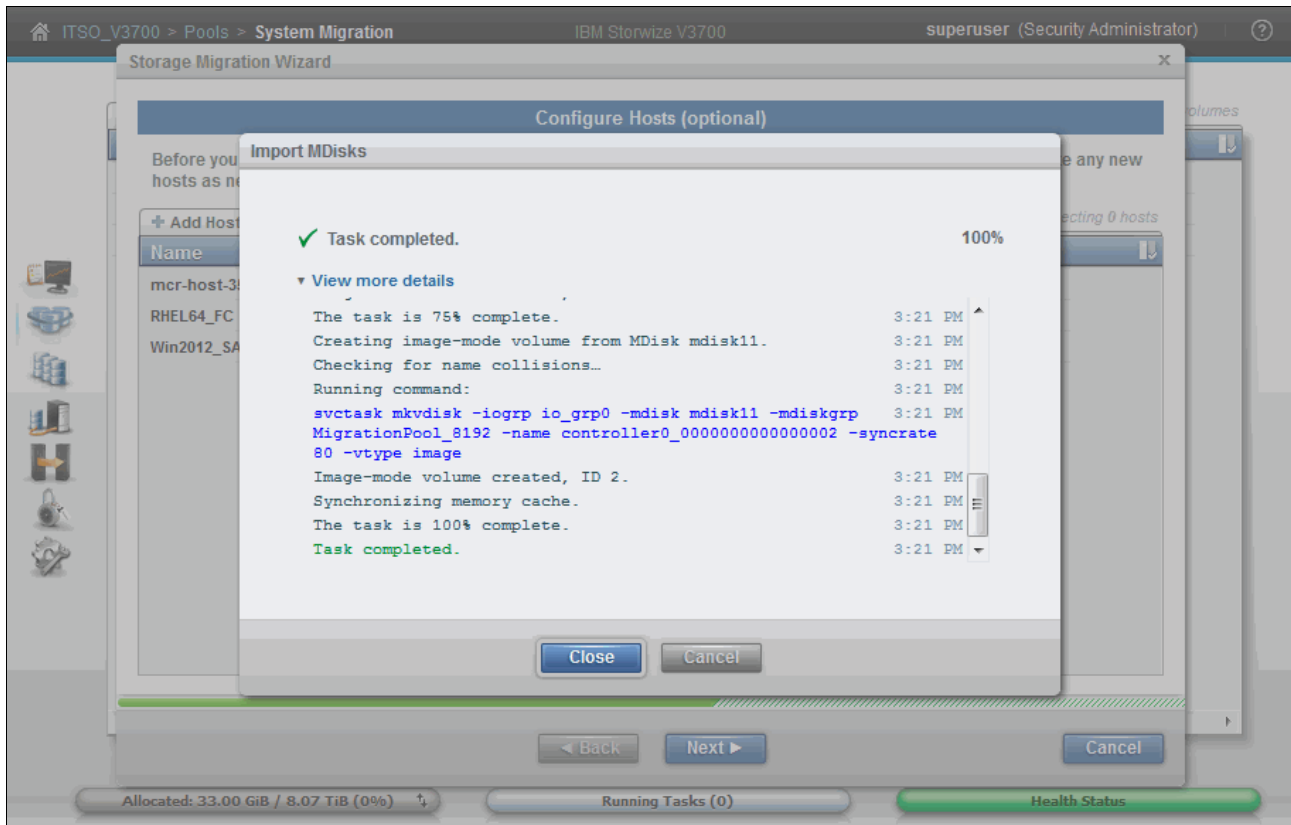

Figure 6-44 Import MDisks task
2. The Storwize V3700 runs the Import MDisks task. After the task is complete, click **Close** to continue. Figure 6-44 shows the result of the Import MDisks task.